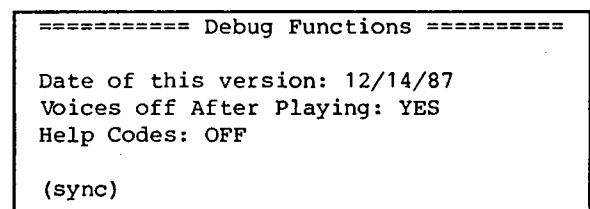

Fig. 5-18
3. After pressing "SOFT KEY4" key the "Debug Function" screen appears on the LC-display from which the production date of the EP-ROM can be detected. (Refer to Fig. 5-18)